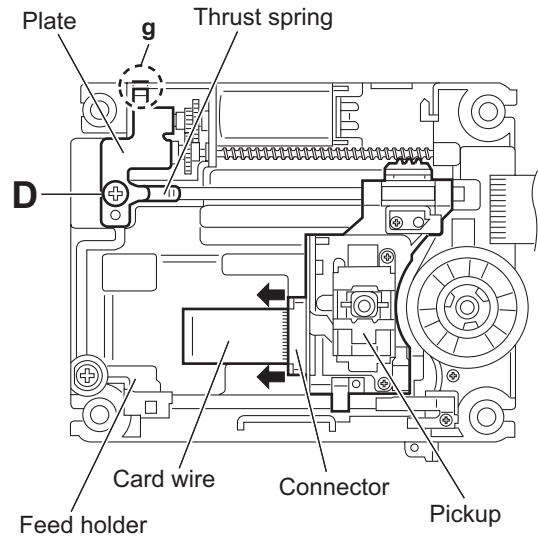

Fig.7
- (2) Release the lock of the connector on the pickup in the direction of the arrow and disconnect the card wire. (See Fig.7.)
- (3) Remove the screw **D** attaching the plate and thrust spring. (See Fig.7.)
- (4) Remove the engagement section **g** attaching the plate to the feed holder and remove the plate with the thrust spring. (See Fig.7.)
- (3) Attach the plate and thrust spring. (See Fig.7.)
### 3.3.6 Removing the feed motor (See Figs.7,11 and 12)
- (1) From the top side of the traverse mechanism assembly, remove the screw **D** attaching the plate and thrust spring. (See Fig.7.)
- (2) Remove the engagement section **g** attaching the plate to the feed holder and remove the plate with the thrust spring. (See Fig.7.)